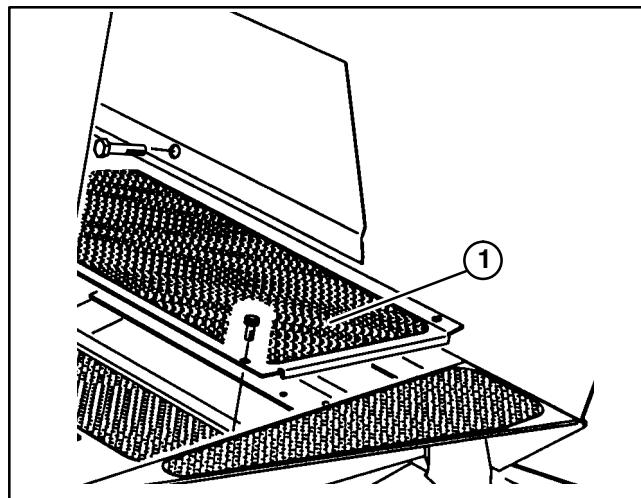

Figure 6
REPLACE FLOOR PANEL FASTENER (Fig. 6)
1. Remove fastener securing left front corner of floor panel to frame (Fig. 6).
2. Replace with 5/16-18 x 5/8" lg. flange head capscrew supplied in loose parts (Fig. 6).